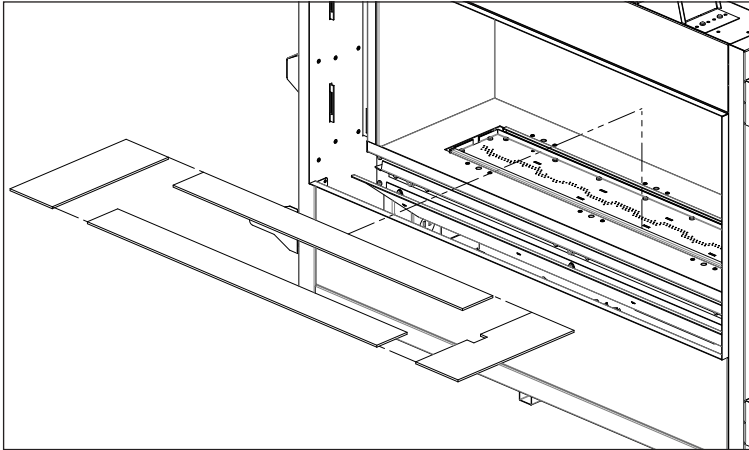

Figure 61 Burner Bezel Placement
2. Place the bezels directly onto the burner platform as shown in Figure 61. No fasteners are required.